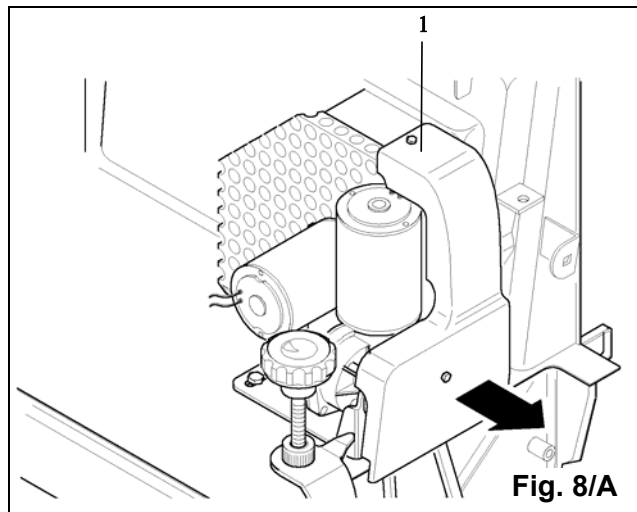

Fig. 8/A
- Insert the new belt on the pulleys **pos.3-4 Fig.8/B**.